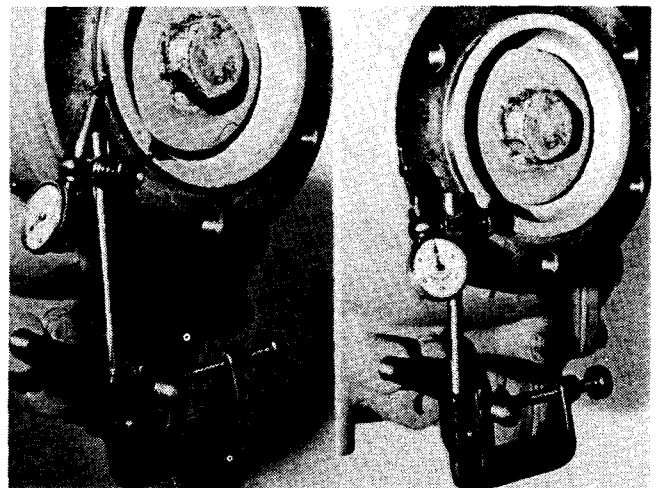

Fig. 14-37, (N114156). Checking crankshaft flange eccentricity and wobble
3. With dial gauge mounted to gear case cover, check crankshaft flange eccentricity and wobble. Eccentricity must not exceed 0.004 inch [0.10 mm] total indicator reading; wobble must not exceed 0.003 inch [0.08 mm] measured at 2-3/4 inch [69.85 mm] radius. Fig. 14-37.